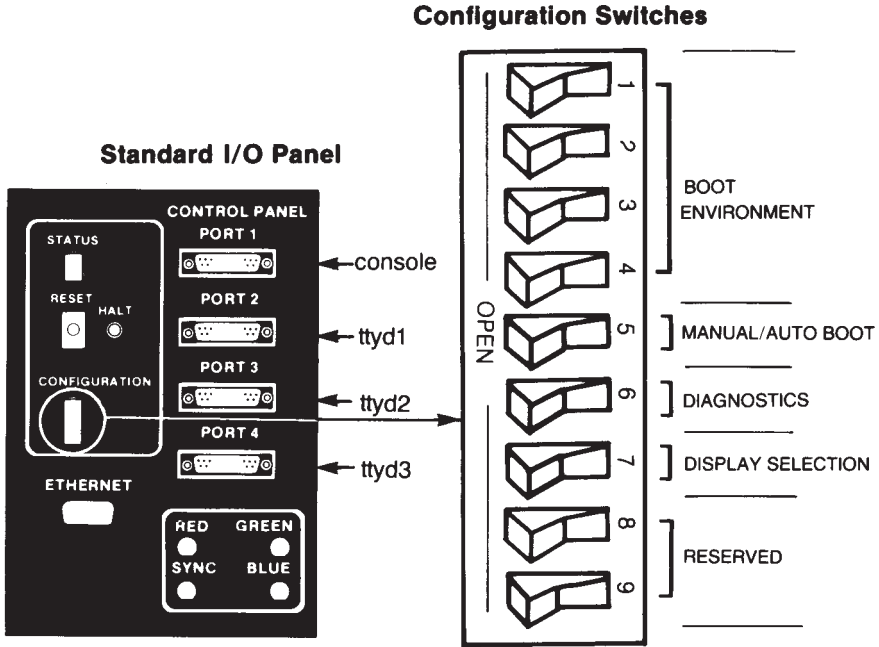

Figure 3-1: IRIS Configuration Switches
2. Set configuration switches 1 through 9 on the cabinet back panel to  Closed (see Figure 3-1).
2. Set configuration switches 1 through 9 on the cabinet back panel to **Closed** (see Figure 3-1).